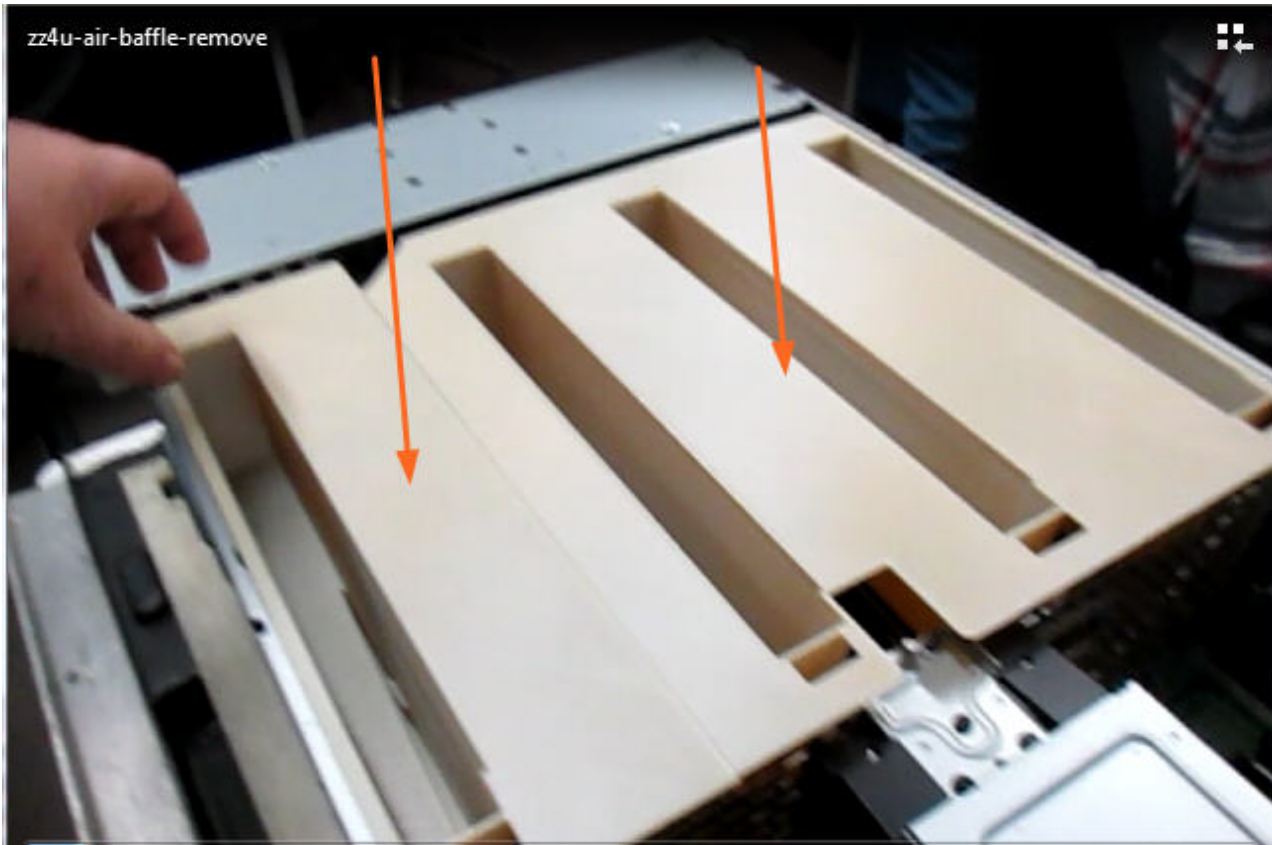

Figure 27. Replacing the air baffle
2. Replace the air baffle (A) into the chassis as shown in Figure 27 on page 36.